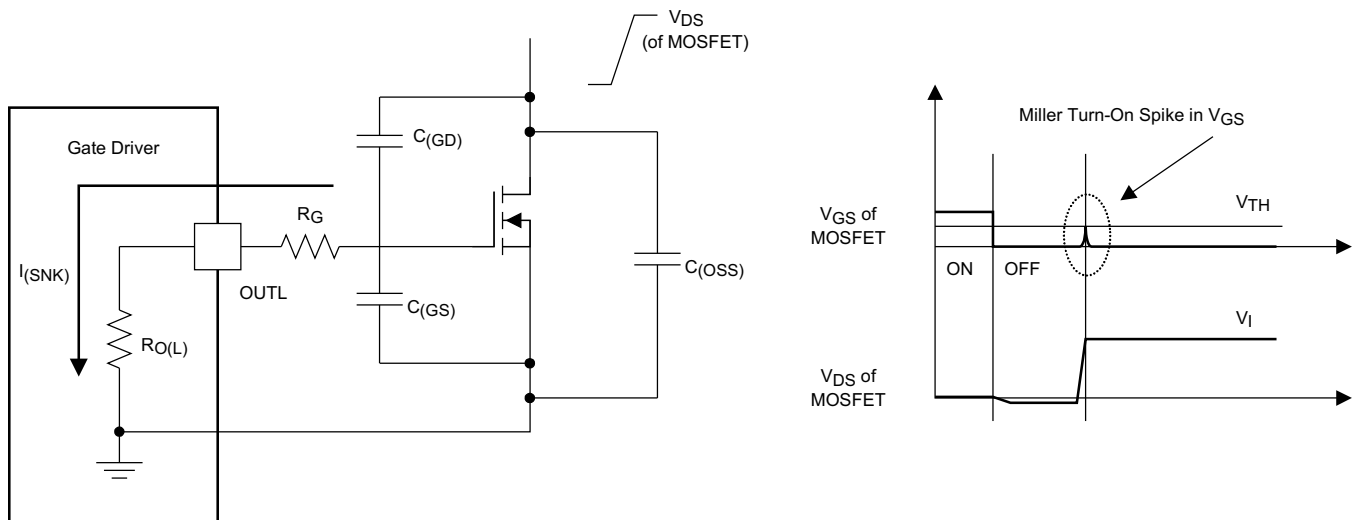

Figure 24. Very-Low Pulldown Impedance in UCC27511A-Q1, 4-A and 8-A Asymmetrical Drive (Output Stage Mitigates Miller Turnon Effect)
An example of a situation where the Miller turnon effect is a concern is synchronous rectification (SR). In an SR application, the dV/dt occurs on the MOSFET drain when the MOSFET is already held in off state by the gate driver. The current discharging the $C_{(GD)}$ Miller capacitance during this dV/dt is shunted by the pulldown stage of the driver. If the pulldown impedance is not low enough then a voltage spike can result in the V_{GS} of the MOSFET, which can result in spurious turnon. This phenomenon is shown in Figure 24. The UCC27511A-Q1 device offers a best-in-class, 0.375- Ω (typ) pulldown impedance boosting immunity against Miller turnon.